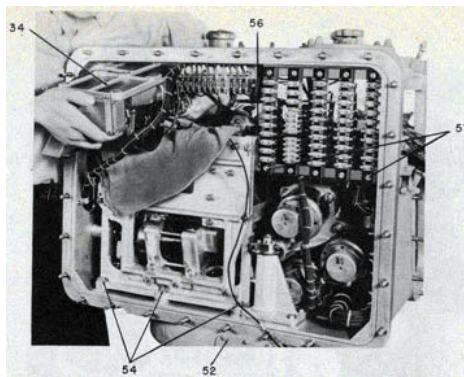

Figure 112-Removal of Own Ship Course Unit and Computer.
34. Now remove the own ship course unit by sliding the unit to the right side of the director case as far as possible and then slipping it out through the rear of the case. Place unit on work bench. See figure 112.
computer. See figure 112.
locations during the assembly procedure. See figures 112 and 113.
56. Remove bolt securing terminal bar bracket 168056-12 to computer. See figure 112.
57. Remove five screws holding terminal block to bracket and drop the bracket as much as possible. Figure 112.